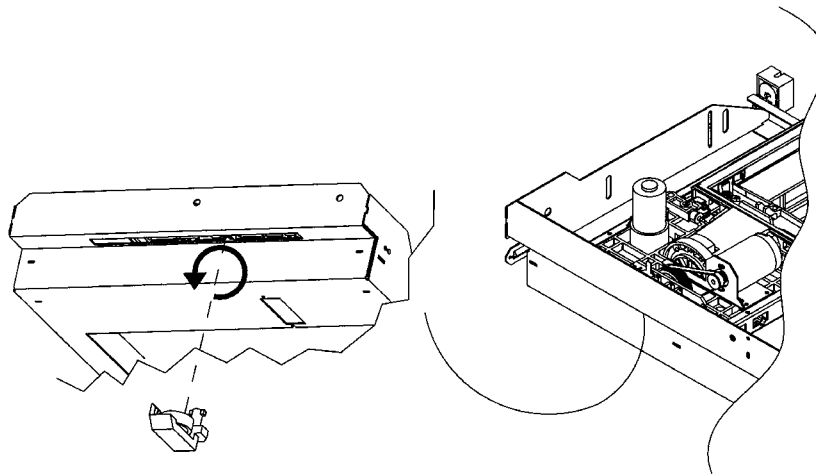

Figure 28: Removing the Translate Frame Capture Bracket
8. Rotate the capture bracket 90 degrees and pull the bracket down and out (see Figure 28).